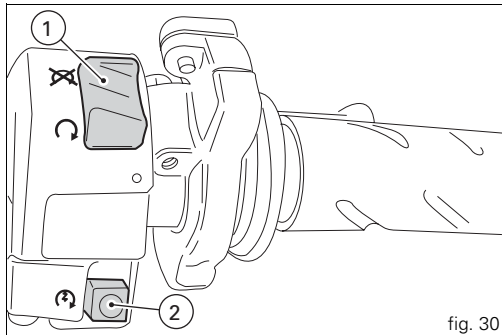

fig. 30
3) Check that the stop switch (1, fig. 30) is set to (RUN), then press the start button (2, fig. 30).